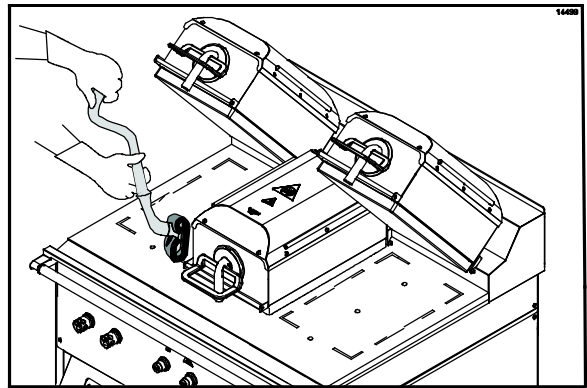

Figure 52
21. Apply the grill cleaner to both sides of the center platen. (See Figure 52.)